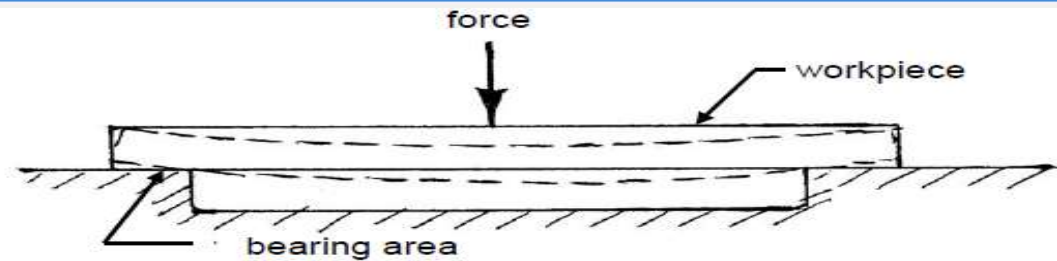

Fig. 8.1.12 Deflection due to force(s) for wide gap in between supports.
- ✓ unsupported span should not be large to cause sagging as indicated in fig. 8.1.12